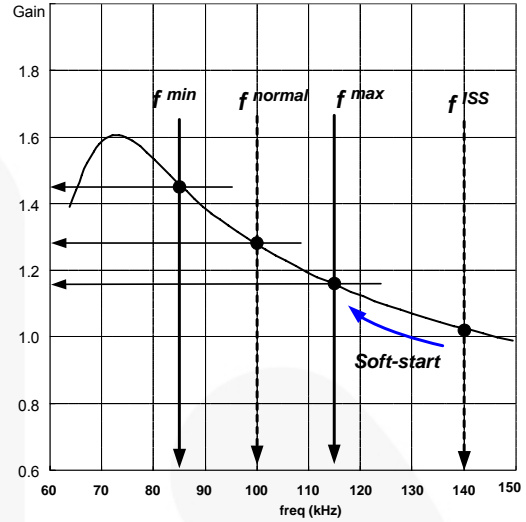
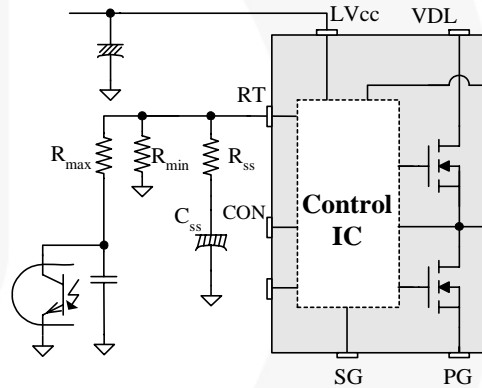
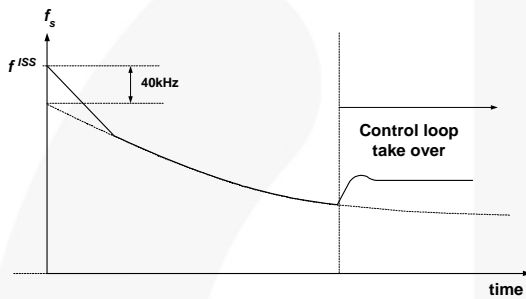

Figure 18. Resonant Converter Typical Gain Curve
Figure 19. Frequency Control Circuit
Figure 20. Frequency Sweeping of Soft-Start
**3. Frequency Setting:** Figure 18 shows the typical voltage gain curve of a resonant converter, where the gain is inversely proportional to the switching frequency in the ZVS region. The output voltage can be regulated by modulating the switching frequency. Figure 19 shows the typical circuit configuration for  $R_T$  pin, where the opto-coupler transistor is connected to the  $R_T$  pin to modulate the switching frequency.
in Figure 19. FSFR-series also has an internal soft-start for 3ms to reduce the current overshoot during the initial cycles, which adds 40kHz to the initial frequency of the external soft-start circuit, as shown in Figure 20. The initial frequency of the soft-start is given as: